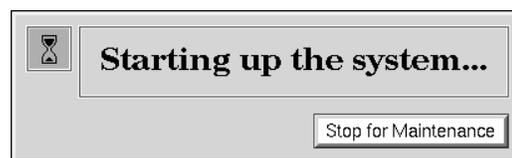

Figure 6-8 System Startup Notifier
2. When the system startup notifier appears, as shown in Figure 6-8, click *Stop for Maintenance* or press `<Esc>` to bring up the System Maintenance menu.